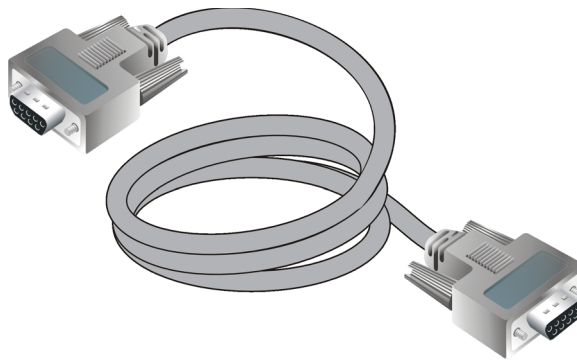

Figure 5: Null modem cable
- **Null modem cable**—An asynchronous RS-232 null modem cable as shown in Figure 5 is required to configure switch network addresses and acquire event log information through the maintenance port. The cable has nine conductors and DB-9 male and female connectors.